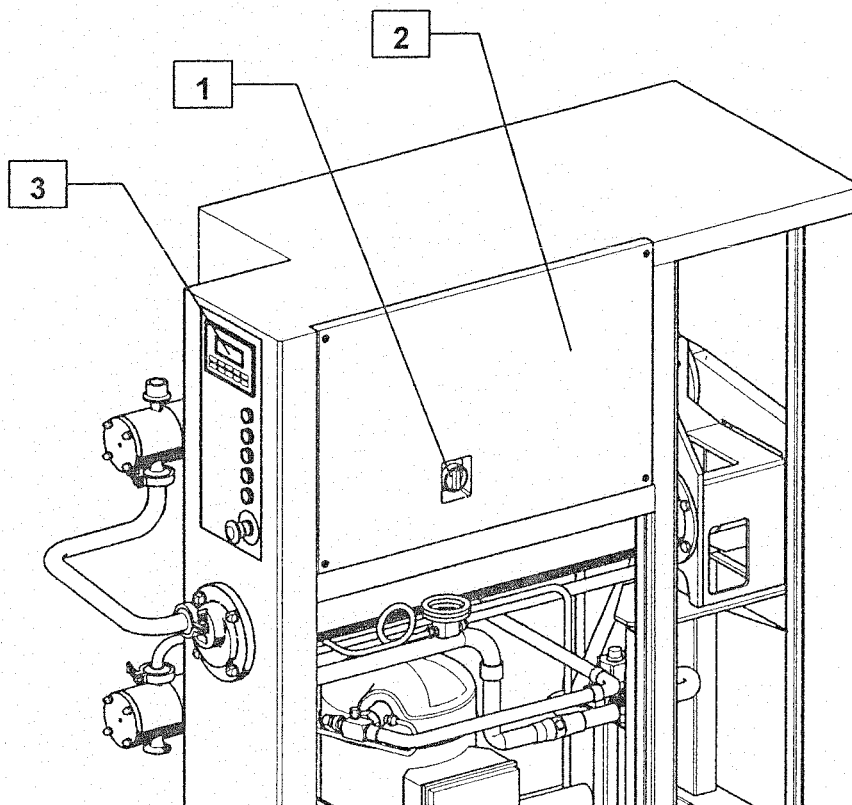

Fig. 4-7 – End of installation check
- Make sure that the voltage and the electric supply frequency of the machine correspond to the values indicated on the technical data card. Give tension to the machine closing the proper disconnecting switch installed upline the machine. Supply the machine turning the disconnecting switch (Fig. 4-7 pos. 1) mounted on the electrical board (Fig. 4-7 pos. 2). Check that the display (Fig. 4-7 pos. 3) lights up.